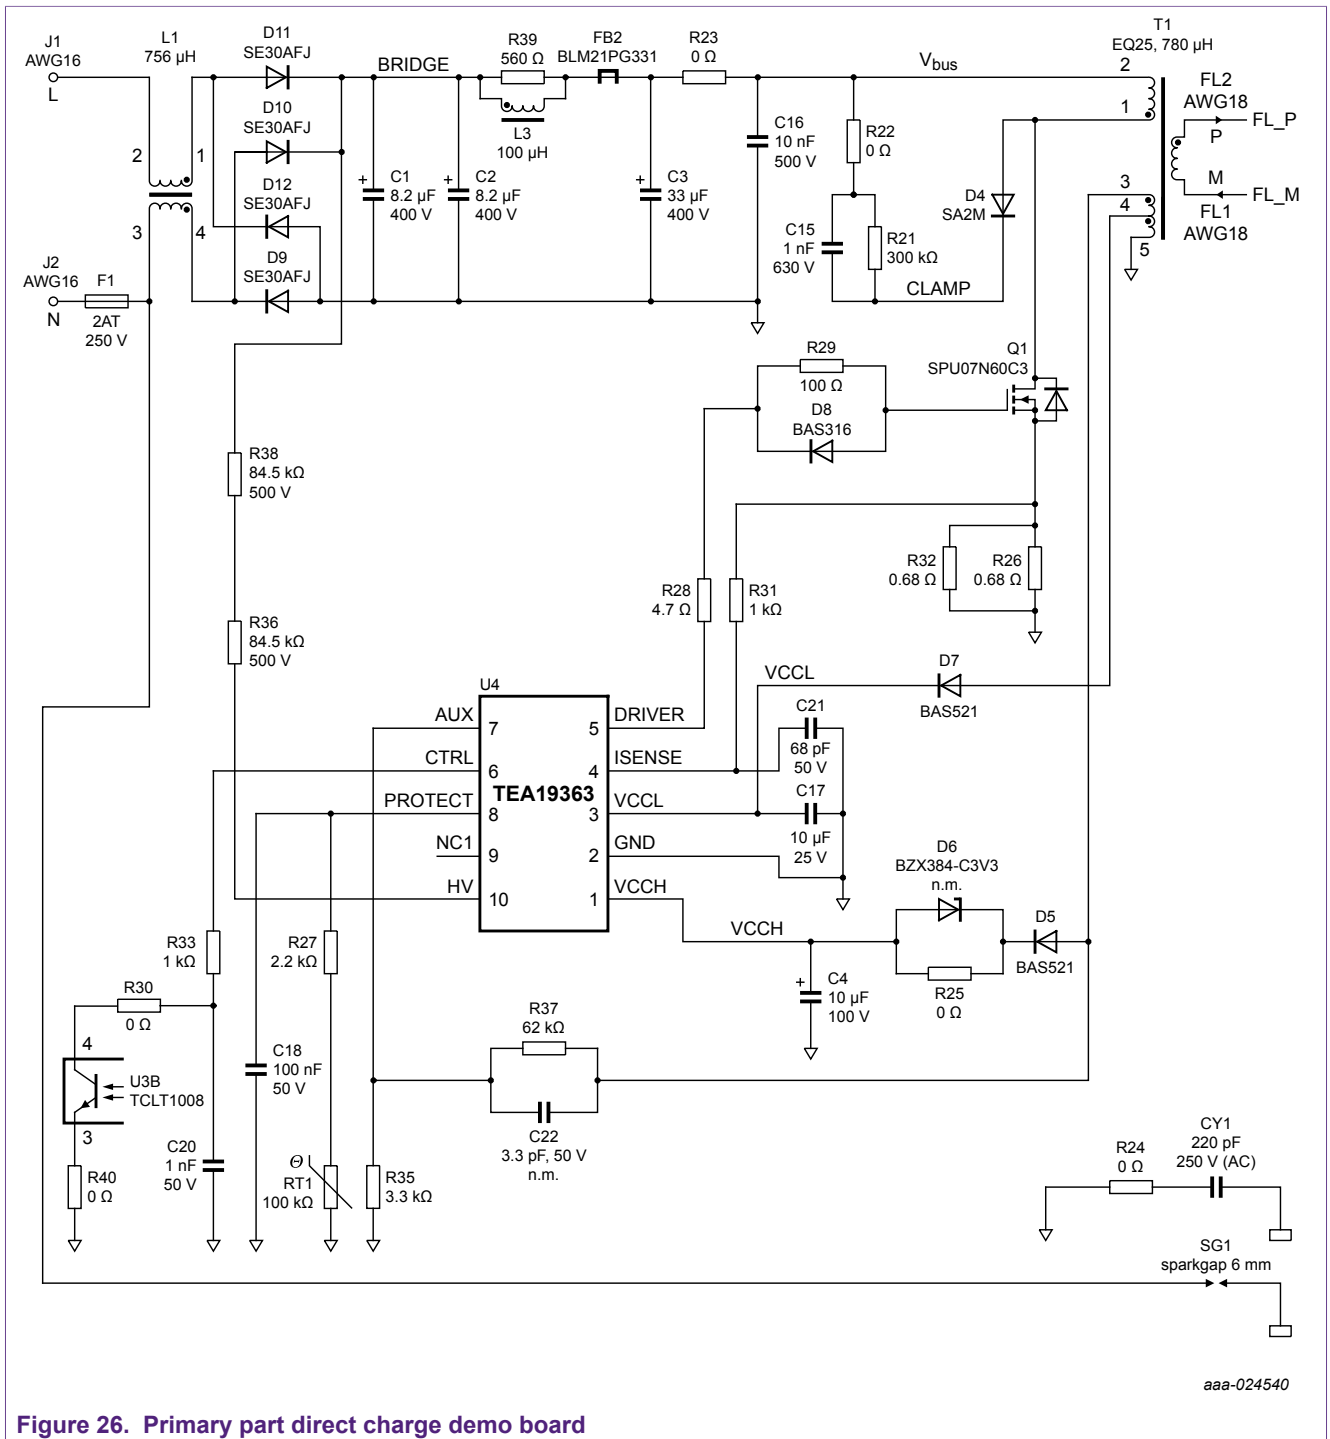

Figure 26. Primary part direct charge demo board
The circuit design is discussed using the schematic of a fast charge demo board. The board is designed to deliver output voltages of 5 V (DC), 9 V (DC), and 12 V (DC). The maximum output current is 2.1 A for all output voltages. Figure 26 shows the schematic.
A resistive divider is connected to the AUX pin. The top of the resistive divider must be connected to one of the auxiliary windings, which provide the IC supply. In Figure 26, the signal that feeds to the AUX pin comes from the VCCH auxiliary winding. In that case, resistor R37 must be redimensioned accordingly. This resistor determines the mains compensation for the OPP level. The resistive divider and resistor R35 set the level for OVP (see Section 3.7 for details).